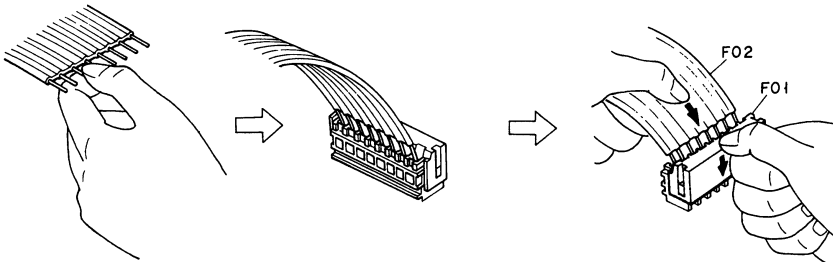

Fig. 2.4.2
- (2) To connect a flat cable, straighten the leads of flat cable and position each lead to the grooves of connector. Refer to Fig. 2.4.2.
- (3) Press down F01 (Connector Cover) and insert F02 (Flat Cable).